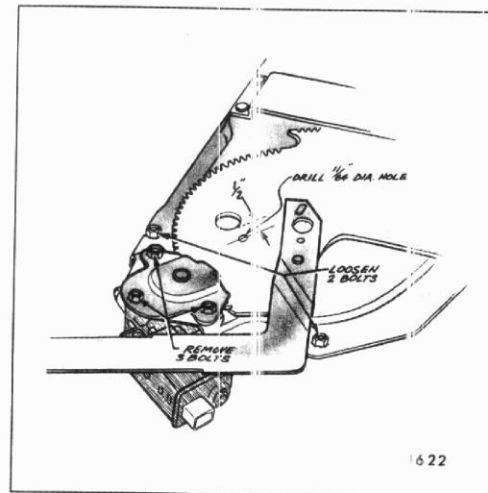

Fig. 9-51-Tail Gate Regulator Motor Assembly
4. Drill a 1/8" hole through regulator sector and back plate (See Fig. 9-51). **DO NOT** drill hole closer than 1/2" to edge of sector gear or back plate. Install a pan head sheet metal tapping screw (No. 10-12 x 1/8) in drilled hole to lock sector gears in position.